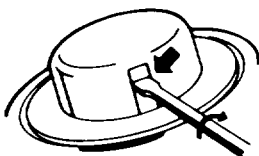

Figure 14
1. To remove empty spool, insert widest possible blade screwdriver snugly into one of two window slots. With screwdriver pressed firmly into window slot, twist screwdriver 1/4 turn. Spool will snap off (Fig. 14).